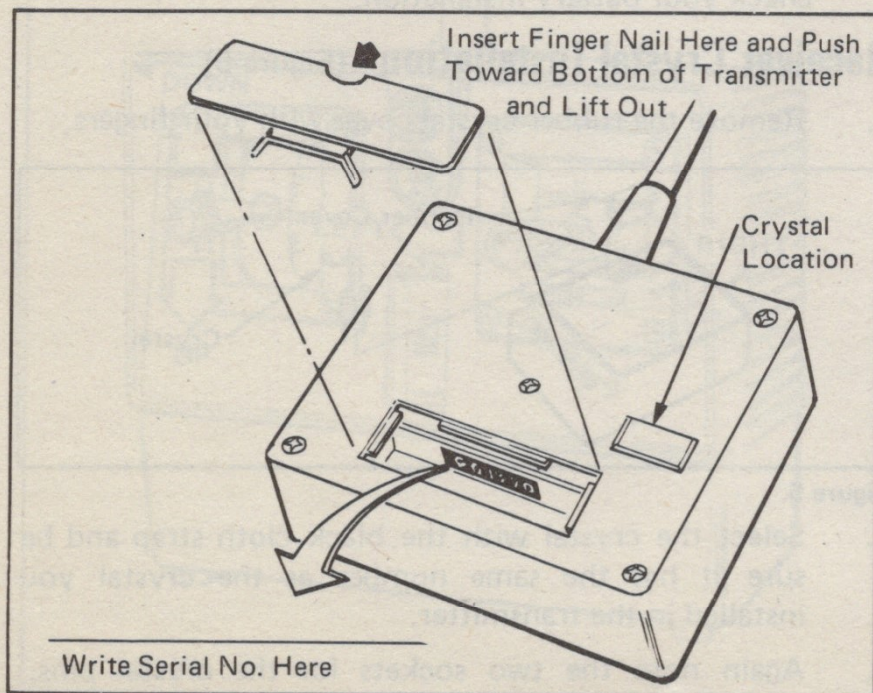

Figure 1.
1. After removing cover plate as indicated in Figure 1 note the serial number of the transmitter. If your unit is ever stolen this is the only means of identification. Enter Serial No. on warranty card.